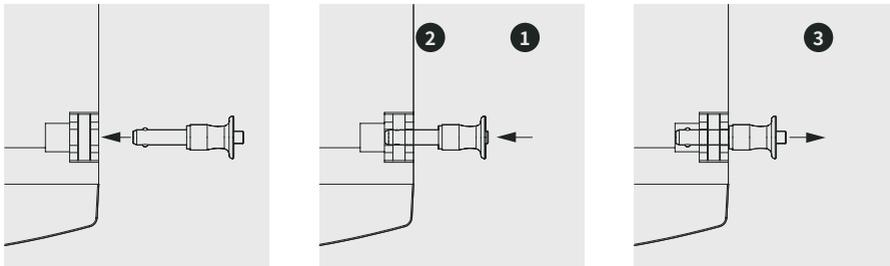

Figure 6. Manipulation of the security pins in the M-Line products.
- Security pins: 6-mm ball lock pins in stainless steel for safe locking between units, manipulated as shown before in figure 6.